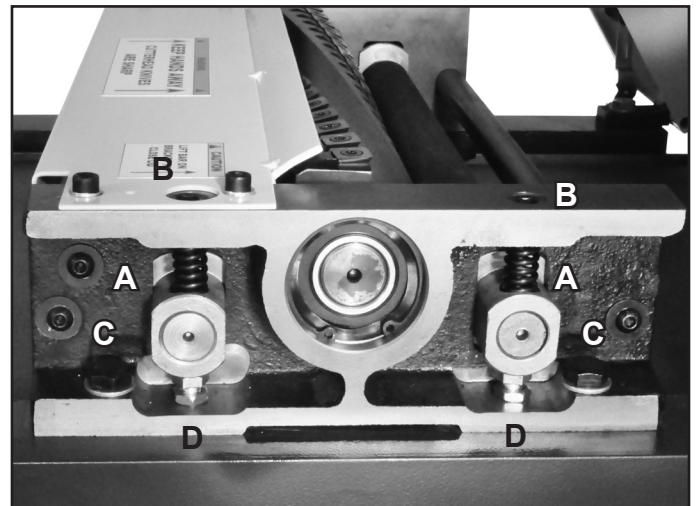

FIG. 21
2. Lift the planer's upper Cover (#13) to access the cutterhead assembly. FIG. 21 & 22.
3. *Adjusting Downward Pressure* for the Feed Rollers is done by the Springs (#47, A) positioned above the Roller Shaft ends (C). Adjusting the pressure is done with the Set Screws (#48, B) that are above the springs.